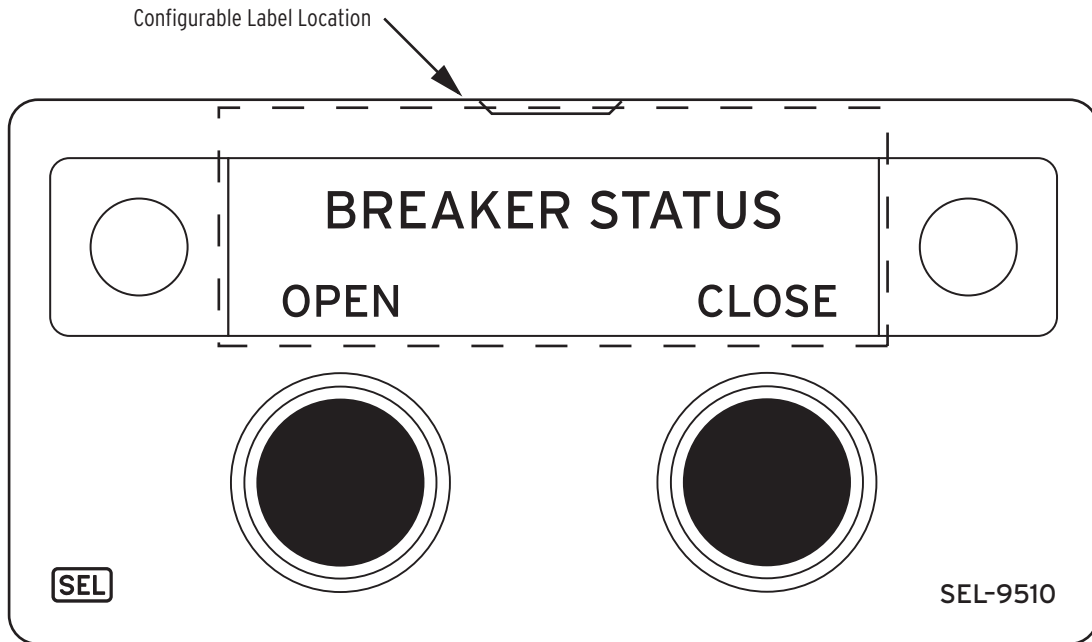

Figure 1 SEL-9510 Configurable Labels Area With Factory Default Labels
The SEL-9510 Configurable Labels Kit provides the materials and information needed to customize the indicator area of the front panel. Figure 1 shows the location of the indicator pocket area and opening.
Use the existing default label on the module.	See Figure 1 . <div style="text-align: center;">Existing Factory Default </div>
- Step 1. Slide the corner of your paper under the label at the label pocket opening (see *Figure 1* for opening locations).